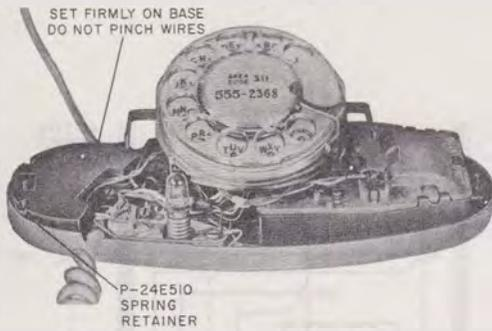

Fig. 9—Location of P-24E50 Spring Retainer and P-15E719 Weight
- (4) Install P-15E719 weight and P-24E510 spring retainer as shown in Fig. 9.
- (5) Replace telephone set housing.